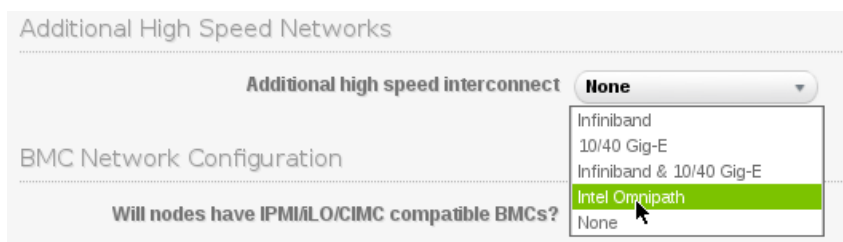
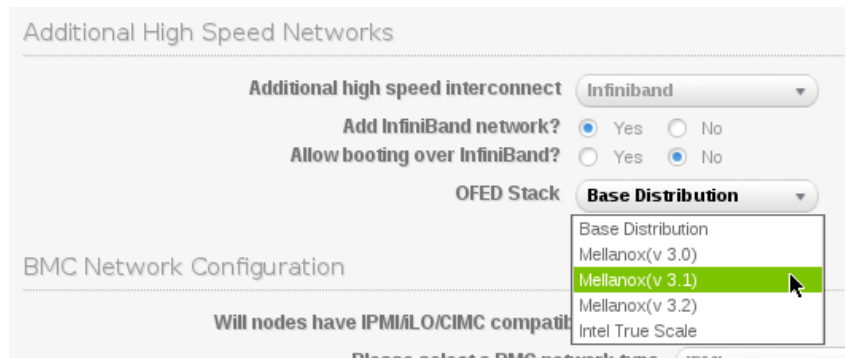
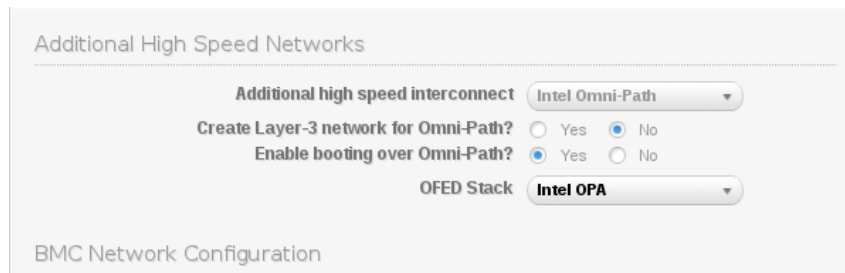

Figure 3.16: Additional Network Configuration: Interconnect Interface
Figure 3.17: Additional Network Configuration: OFED stack
Figure 3.18: Additional Network Configuration: OPA stack
The choices include 10/40 Gig-E, Omni-Path, and InfiniBand RDMA OFED (figure 3.16).
- **Interconnect choice: Infiniband choices:** If InfiniBand is chosen in the screen of figure 3.16, then the OFED stack driver menu options are a choice between Mellanox versions, Intel True Scale (formerly QLogic), or the default parent distribution version (figure 3.17).
- **Interconnect choice: Omni-Path choices:** If Omni-Path is chosen in the screen of figure 3.16, then the OFED stack driver menu option shows the Intel OPA software stack (figure 3.18), if the stack has been included on the Bright Cluster Manager installation medium.